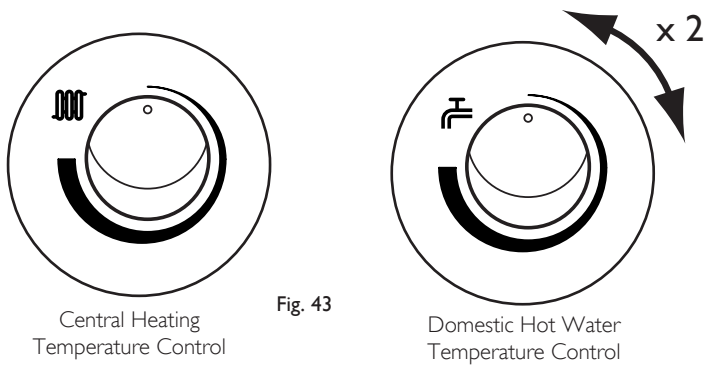

Fig. 43
3. Turn both temperature control knobs fully anticlockwise, then quickly turn the DHW temperature knob 1/4 clockwise twice and back fully anticlockwise (Fig. 43).